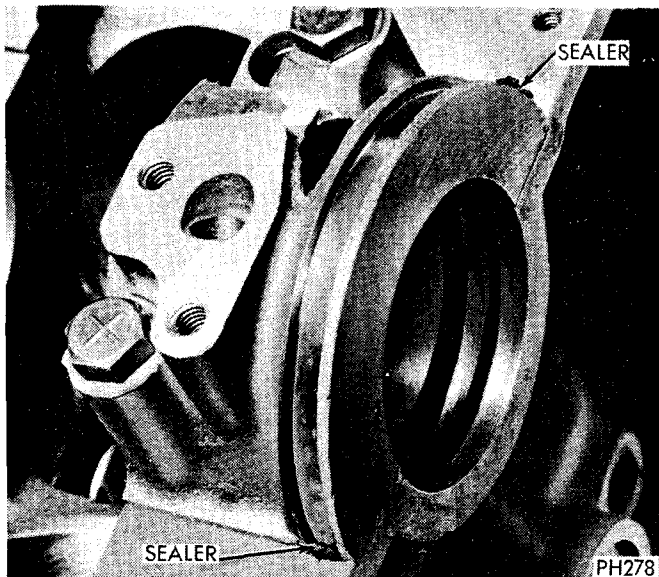

Fig. 51—Oil Pan End Seal at Rear Bearing
(7) Place the other half seal in bearing cap with paint stripe toward rear.
(8) (360 cu. in. engine only) Apply 4026070 or equivalent sealer adjacent to rubber seal (Fig. 51). Assemble bearing cap to block immediately after applying sealer. Torque to 85 foot pounds.